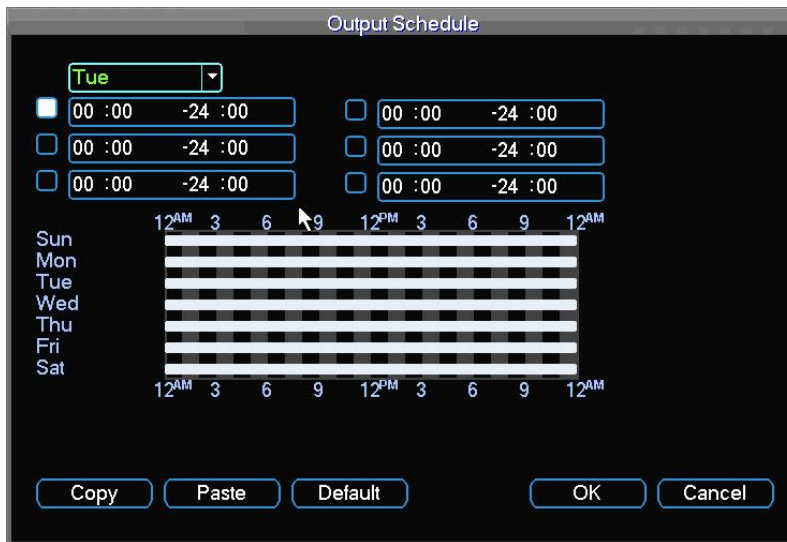

Figure 4-19
- Period: Click set button, you can see an interface is shown as in _Figure 4-19. Here you can set for business day and non-business day. In _Figure 4-19, click set button, you can see an interface is shown as in _Figure 4-20. Here you can set your own setup for business day and non-business day.